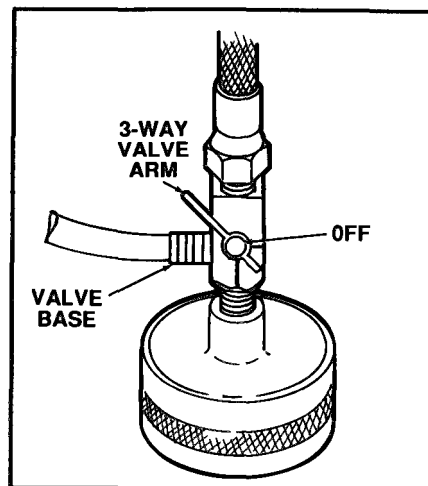

Figure 2.32 Three-Way Valve
- b. The three-way valve must be in the OFF position *before* attaching the sampler to the remote assembly the valve is closed or off when the valve arm is positioned approximately 45 degrees from the base of the valve (Figure 2.32).